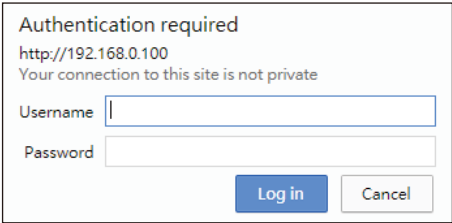

Figure 5-2: Web Login Screen
2. When the following dialog box appears, please enter the default user name "**admin**" and password "**admin**" (or the password you have changed before) as shown in Figure 5-2.